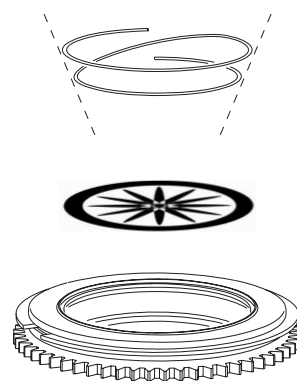

Figure 11: Rotating goboholder
The gobos are held in goboholders by a retention spring (see Figure 11). Note that the retention spring can only be used with gobos maximum 3 mm thick. Thicker gobos can be glued to the holder with a UV adhesive or Loctite 330 Multibond with Activator.
4. Insert the new gobo in the holder with the side that faces towards the LEDs facing upwards, towards the spring (see Figure 8 and Figure 11).
5. Insert the spring with the narrow end against the gobo, as shown in Figure 11. To identify the narrow end, press the spring flat: the narrow end is on the inside. Push the end of the spring in under the lip of the holder.